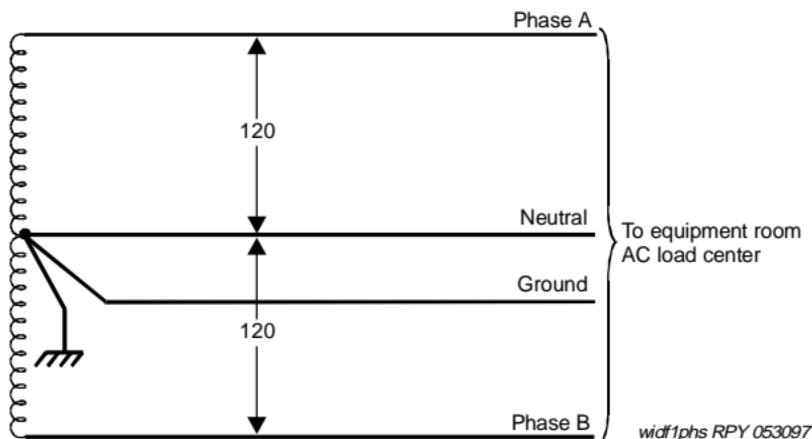

Figure 18. Single-Phase, 120/240 VAC, 60 Hz Source
- Single-phase, 4-wire, 120/240 VAC supplying 240 VAC. See Figure 18. This source has 3 hot wires plus 1 ground wire.